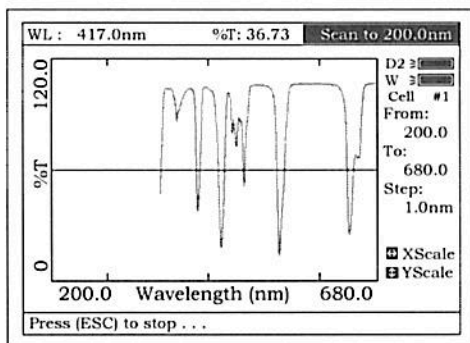
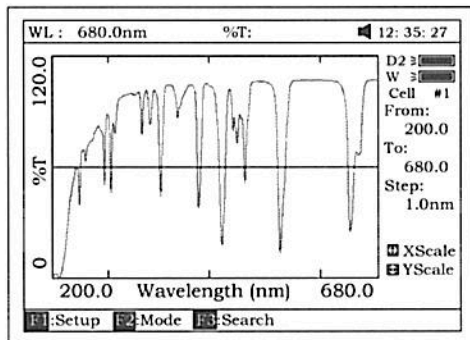

Fig 45
Fig 46
4. Put the sample cuvette into Main Light Path, press **【START】** to scan the sample (Fig 45) **【ESC/STOP】** to stop scanning. When scan has finished the beeper beeps 3 times (Fig 46).
*Note: The report always is printed in Fig 46*